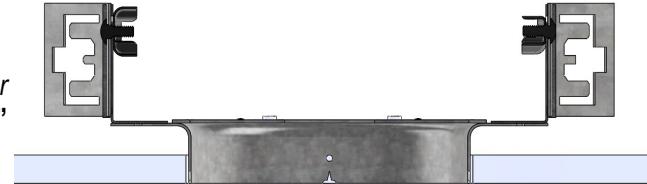

Figure 1
1. Locate frame in kit and assemble as shown (see **Figure 1**).
3. Loosen the bracket wing nuts from the inside of the fixture, and adjust the *hanger bar end brackets*, so that the lower lip of the fixture flange will be **flush, or 1/8” (max)** above the bottom of the ceiling surface. (See **Figure 1**).